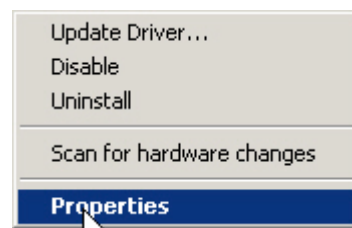

Fig.2.12
k) Click right mouse button on DCM300, a pop up menu will be shown in Fig.2.12
l) Click Properties in Fig.2.12, you will find DCM300 Properties as shown in Fig.2.13